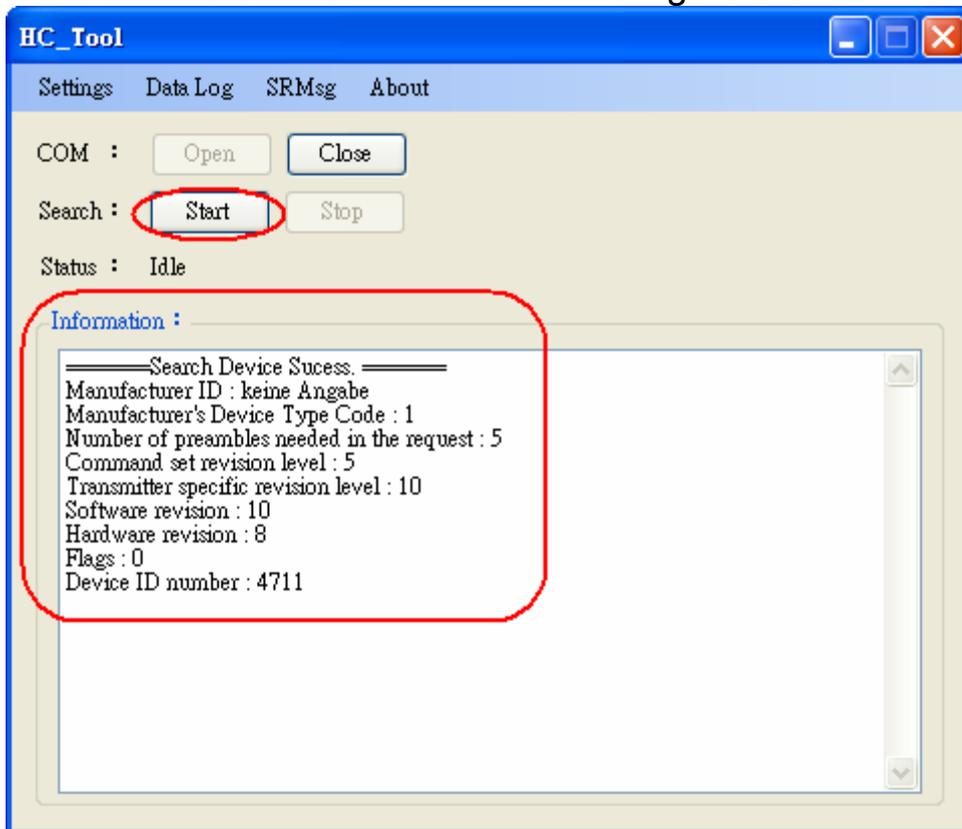

Figure 3-5: HART device Information
Step5: Click “Start” button to search all HART devices and the result will be shown in the "Information" field like Figure 3-5.